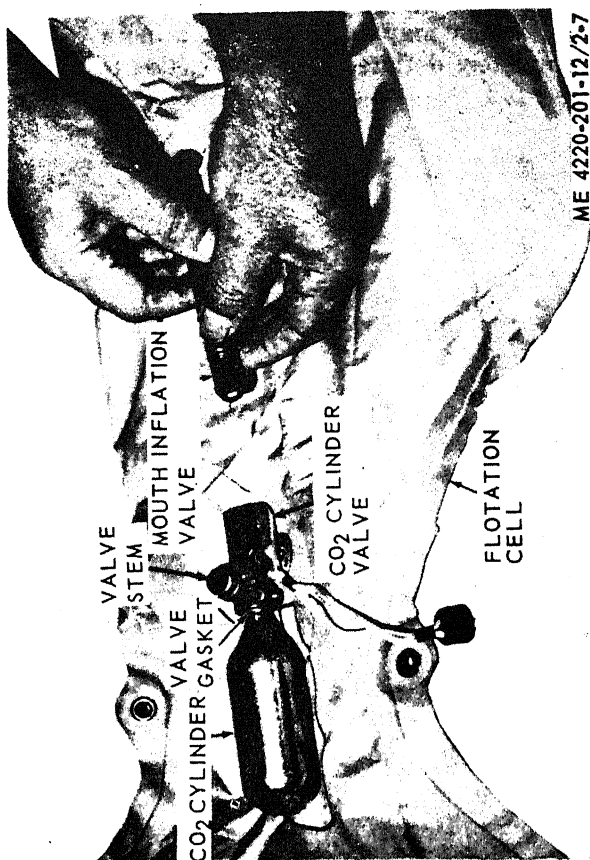

Figure 2-7. Mouth inflation valve.
(2) When necessary, additional inflation can be effected by opening the mouth inflation valve (fig. 2-7) and blowing air by mouth.
(1) Depress the mouth inflation valve (fig. 2-7) and roll the flotation cell toward the mouth inflation valve.
(2) Apply a vacuum to the depressed mouth inflation valve.
Inspect life preservers in service prior to use and every 90 or 120 days thereafter. If the preserver flotation cells (fig. 2-7) are four years of age or older, inspect the preserver every 90 days; if the cells are less than four years old, inspect the preserver every 120 days. At least once yearly, inflate a percentage of preservers undergoing inspection with CO₂ to insure proper functioning of the CO₂ inflation system. Do not inflate the same preserver with CO₂ more than once each year since repeated CO₂ inflation may cause leaks in the cell fabric.
a. Attach the mechanical inflation system to the mouth inflation valve (fig. 2-7). Be sure the CO₂ valve discharge lever (fig. 4-1) is in operating position. Install an empty CO₂ cylinder in the inflator to prevent leakage.
d. Remove the cylinder and deflate the cells after they have passed the inflation test. Check the cylinder valve for proper operation and make sure gaskets (fig. 2-7) are installed. Return the valve discharge lever (fig. 4-1) to the closed position.
(1) For cylinder valve assemblies (fig. 2-7) having no set screw to secure the CO₂ cylinder, apply thread sealant to cylinder threads after they have been engaged from one to two full turns. After applying the sealant, hand-tighten the cylinders and remove all excess sealant.
(4) Wipe the mouth inflation valve (fig. 2-7) clean, and carefully apply powdered graphite at the valve threads and seat.
(5) Apply powdered graphite to cylinder valves (fig. 2-7) that do not operate freely.